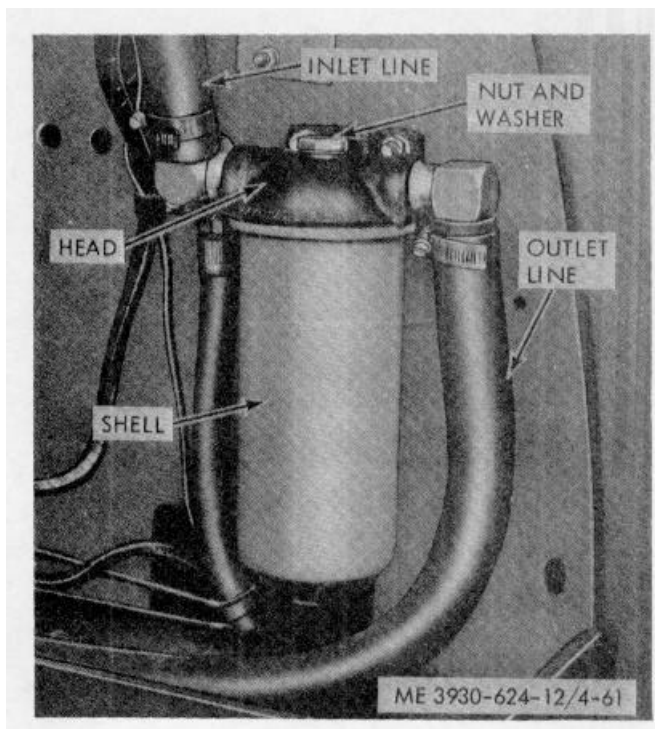

Figure 4-61. Hydraulic oil filter.
- (1) Remove the right-hand cowl.
- (2) Remove the nut and washer (fig. 4-61) from the hydraulic oil filter head.